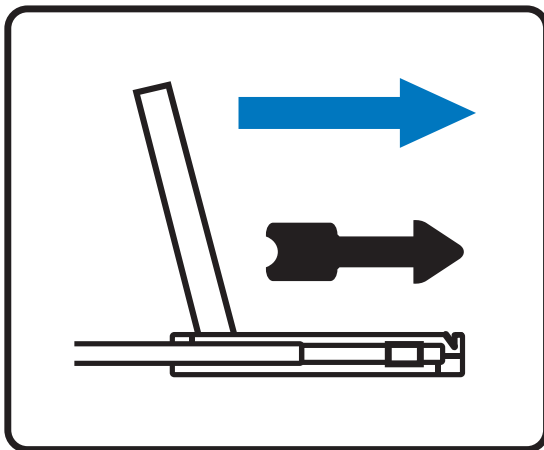

Figure 2.
- Pull and hold the black arrow button on either side of the LCD keyboard drawer to unlock. (shown in **Figure 2**).